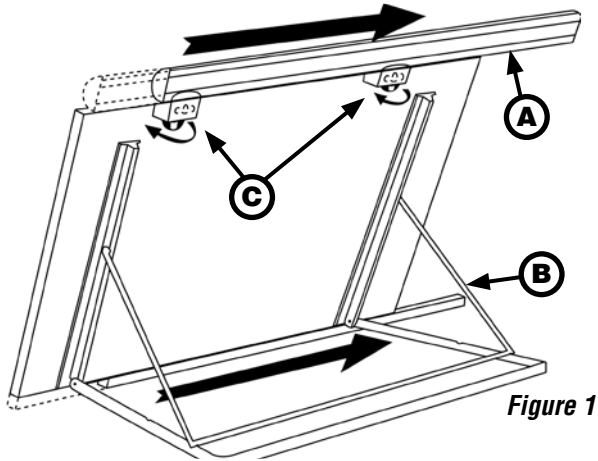

Figure 1
**Note:** To move track (A), unscrew knobs (C) counterclockwise (see *Figure 1*) and tighten them once in the chosen position.